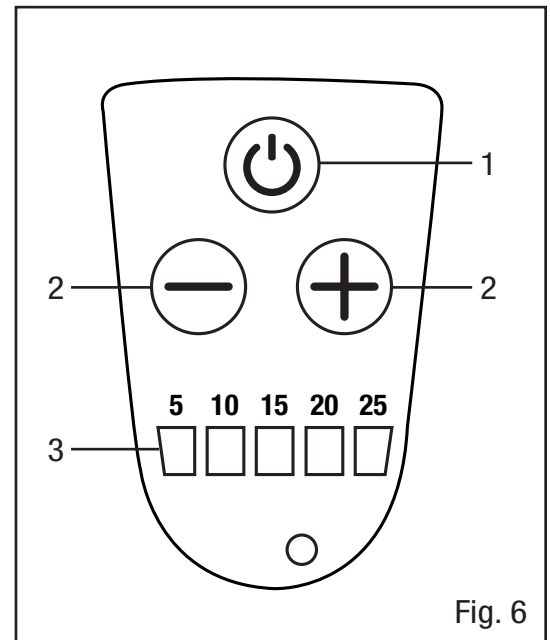

Fig. 6
TURNING THE TOOL ON/OFF (FIG. 6)
- To turn the tool ON, press and release the power button (Fig. 6 - 1). The tool will start operating at a speed of 5,000 RPM and the front LED light will illuminate. You can adjust the operating speed by following the instructions in the section "SETTING THE OPERATING SPEED".
SETTING THE OPERATING SPEED (FIG. 6)
The operating speed of your rotary tool may be adjusted by pressing on the plus (+) or (-) minus buttons (Fig. 6 - 2) located on the control panel.
Every time the tool is turned on, the operating speed will start at 5000 RPM. With each press of the speed adjustment button, the speed will increment or decrement by 5,000 RPM, from a minimum of 5,000 RPM to a maximum of 25,000 RPM. The LED speed indicator lights (Fig. 6 - 3) below the buttons will illuminate to show the chosen speed.